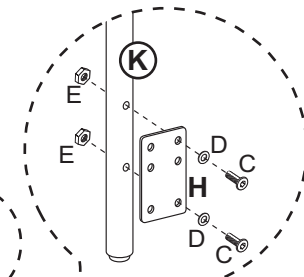

FIGURE 2
STEP 2 - Figure 2 - Queen Size Only